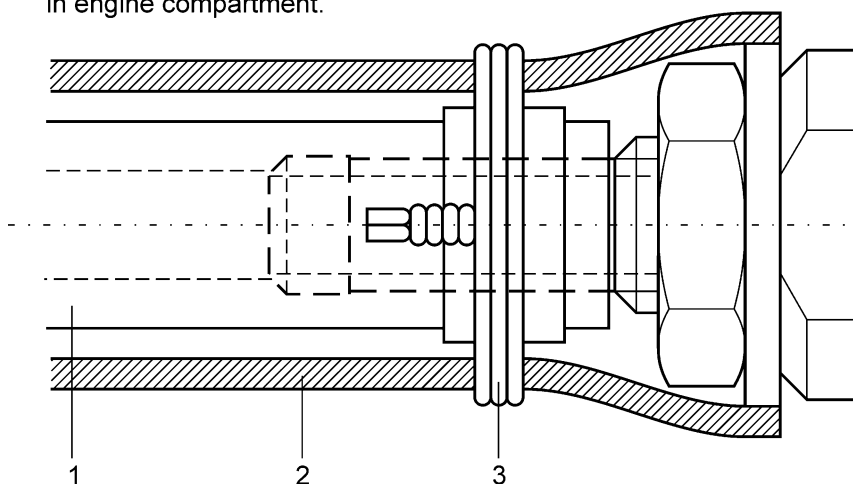

Fig. 1 – Installation of the PYROJACKET PJA 14 protective sleeve
- 1.3.3 Cut off the cable ties which attach the oil system hoses to the other components. Remove the original rubber sleeves which protected the hoses against abrasion. Remove the ends of the oil system hoses (1, Fig. 1) from the more accessible sides or remove the hoses completely - it all depends on the possibility of access at the place of disassembly. Be especially careful when working with the oil system hoses due to the residual oil inside the hoses.
- 1.3.5 Determine the length of the PYROJACKET protective sleeve (2) in accordance with the length of each individual oil system hose. Add the necessary allowance to the length of the PYROJACKET protective sleeve (2) to allow the fittings to be attached to both ends of the oil system hose (Fig. 1). The version of the oil system with a thermostat requires 5 pieces of PYROJACKET protective sleeves (2), the version of
Legend to Fig. 1